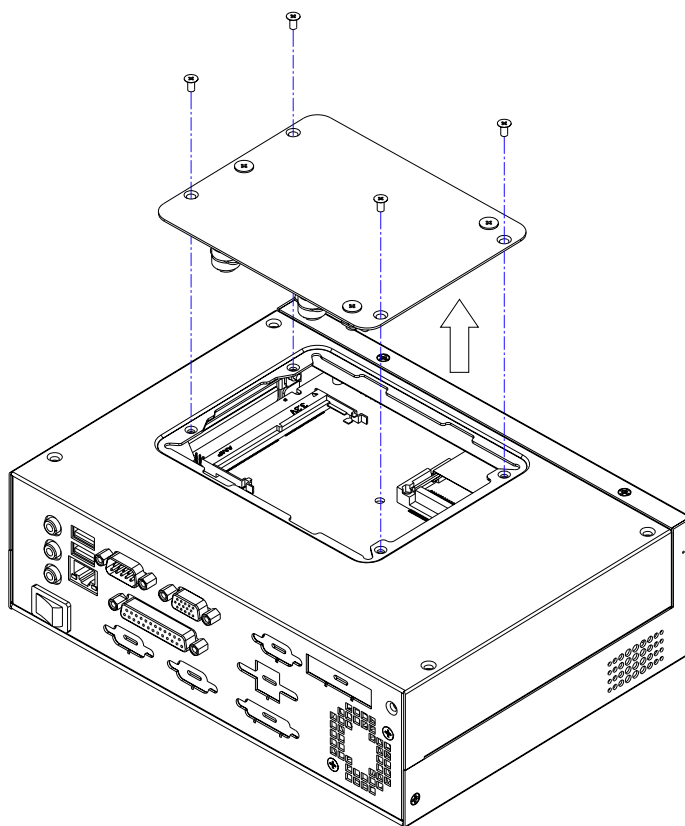

**Figure 2.1 Removing the top cover**
3. Pull forwards the top cover and then lift it up. (see Figure 2.1)